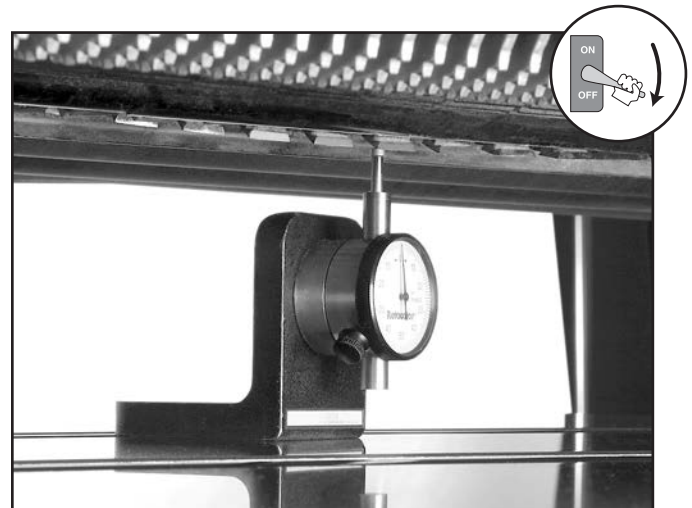

Figure 37. Using a Rotacator to find BDC.
4. Using a Rotacator as shown in **Figure 37**, find the BDC of any insert edge by slowly rocking the cutterhead pulley back and forth until the Rotacator indicates the lowest point, then set the Rotacator dial to zero.